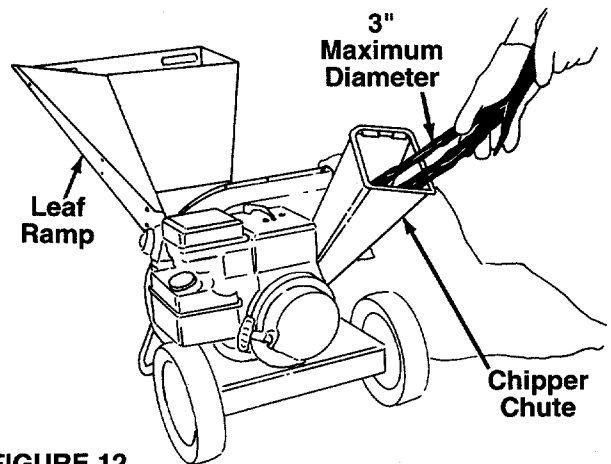

FIGURE 12.
3. Bulky material, such as stalks or heavy branches, up to 3" in diameter should be fed into the chipper chute. See figure 12.